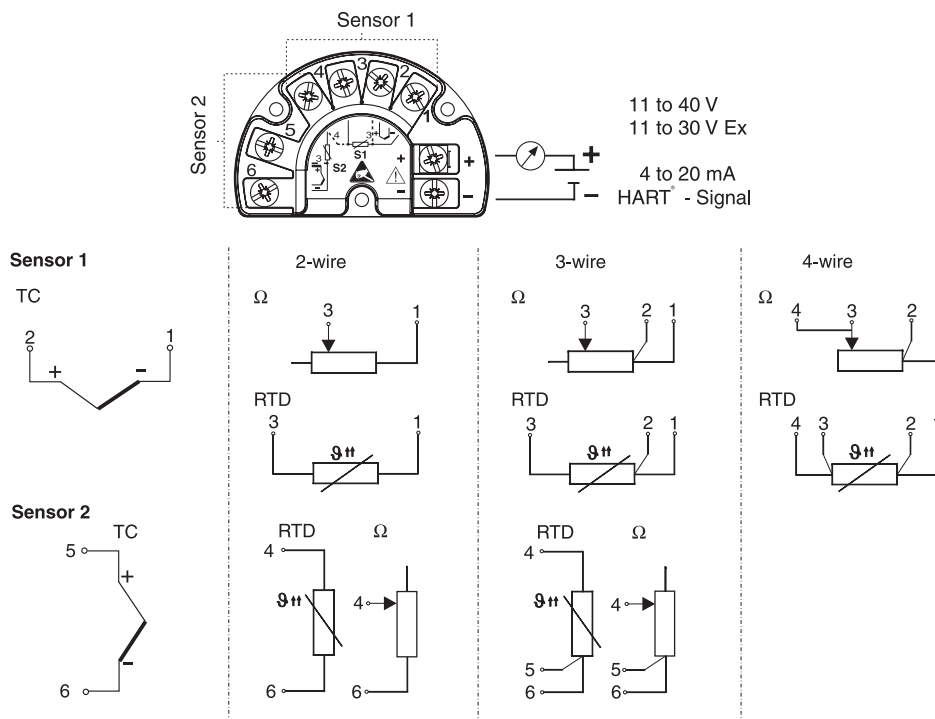

Figure 7. Input Connections
4. Connect the leads as shown in Figure 7. Ensure the terminal screws are tight.
- ◆ Have the cables been correctly connected? See Figure 7.